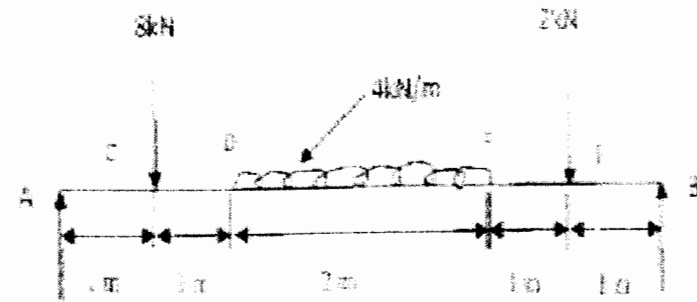

Fig 4
- 5. For the beam shown in fig.4 Draw the shear force and bending moment diagram.